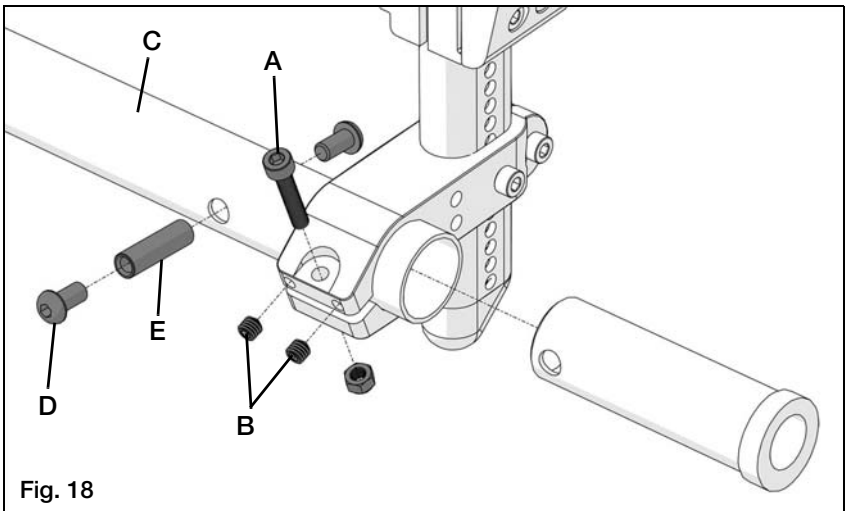

Fig. 18
4. Insert 5mm bolt (Fig. 18:A) into aligned hole. Secure with 5mm nut using a 3mm hex wrench and 8mm wrench to tighten securely.
5. Using a 4mm hex wrench, tighten the 2.5mm socket head screws securely (Fig. 18:B). Move to step c on the next page.
3. Slide receiver to center of camber tube and align two holes in tube and two holes in receiver (Fig. 18:A).
4. Insert 6mm socket head screws (Fig. 18:A) into aligned holes. Secure with 6mm lock-nuts and flat washers and tighten securely using a 4mm hex wrench and 10mm wrench. Move to step c on the next page.